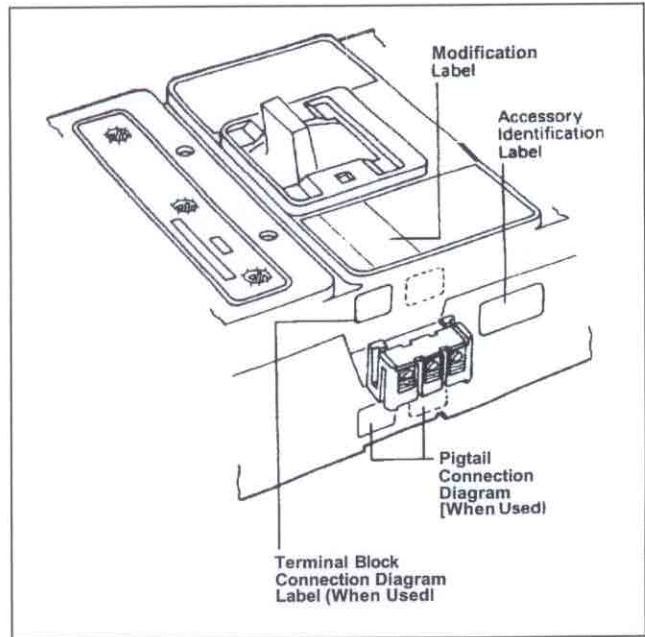

Fig. 2-4 Preferred Mounting Locations for Accessory Nameplate Labels
- 2-9. Place accessory labels (supplied with kit) on circuit breaker (see Fig. 2-4).